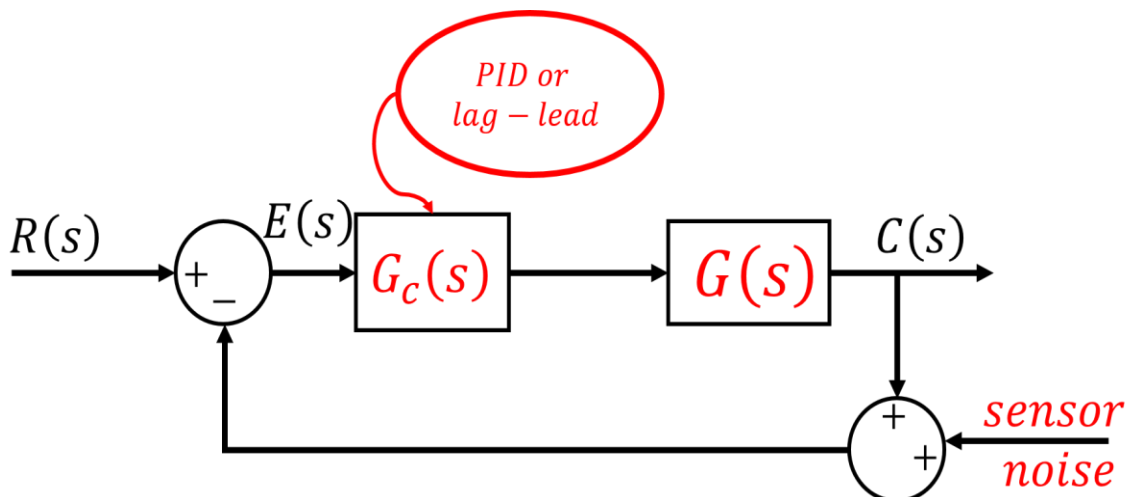

Figure 5: Control system setup with sensor noise added to plant measured output
- Add sensor noise to the output of the plant $G(s)$ that is compared to the reference step input. Use the Band-Limited White noise Simulink block. Set the sample time to 1 and the noise power to 0.001. What is the effect of adding sensor noise on the closed-loop system performance? What is the effect of increasing the noise power to higher levels? (see Figure 5 below for visualization) **Hint:** In previous questions, you might have built your own PID controller block and implemented it in Simulink. While an idealized measurement setup was considered in the previous questions, it is expected that the addition of sensor noise might cause problems due the numerical differentiation block $\frac{\Delta u}{\Delta t}$ in the PID controller. For this reason, a filter is typically added to the derivative term in the PID controller; see the built-in Simulink PID compensator block. This filter adds a parameter N that you need to design. In this question, in addition to comparing between the performance of the lead-lag and PID compensators in presence of sensor noise, compare the performance of your own implementation of the PID